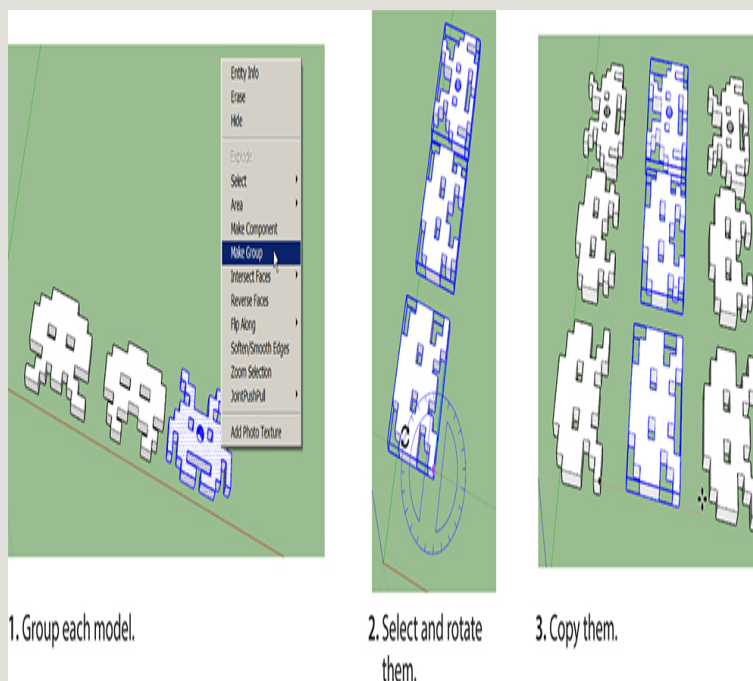

Figure 4-42 Group the models, rotate for better positioning, and copy.
1. Group each model separately; then rotate and copy them (Figure 4-42).